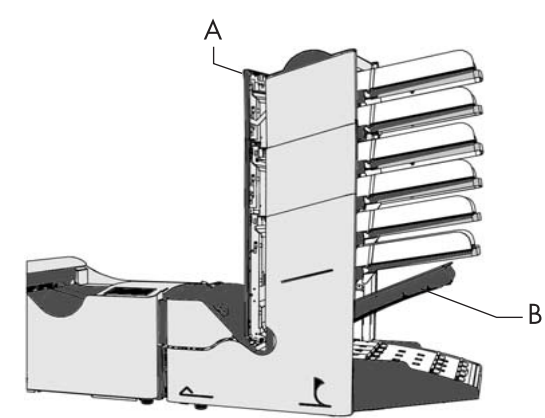

Fig. 57
- pull the hand grip A upward to open the vertical transport cover (fig. 57).
- lift and hold the collator arm B (fig. 57).